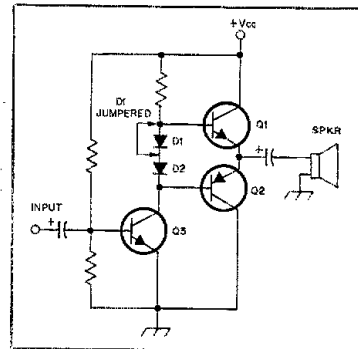

Fig. 4 — Typical circuit of a complementary-symmetry audio channel found in a modern receiver or transceiver (see text).
Fig. 4 — An old piece of coaxial feed line can be tested for losses by establishing a given transmitter output power (A) and maintaining it. Next, as shown at B, the wattmeter and dummy load are moved to the far end of the line to be tested and a second power reading is taken. The loss in decibels is then found from $\text{dB} = 10 \log P_1/P_2$, where P_1 is the highest power observed and P_2 is the lowest reading.
If you are suspicious of your feed line because it has been out of doors for a long time, or if it has been buried in the soil, it would be prudent for you to do a power-loss measurement of the line. This is a simple procedure. The essentials are shown in Fig. 4. The transmitter power is set to a specified amount after we connect a power meter and dummy load to the transmitter output. Next, the suspected coaxial line is attached to the transmitter, while the power meter and dummy load are moved to the far end of the feed line. A second power reading is taken. The loss in decibels is then compared to the loss of a new feed line, at the operating frequency. (See Fig. 1 and calculate the loss per foot.) If it is greater than 10% of the rated value, the feed line should be replaced.
Most of today's rigs have an af-output stage that is similar to the circuit of Fig. 4. D1 and D2 provide a slight forward bias for Q1 and Q2 to reduce crossover distortion. Sometimes a resistor is used in place of D1. All we need to do in order to introduce crossover distortion intentionally is to change the bias on Q1 and Q2 of Fig. 4. The crossover distortion provides the same results as is created by D1 and D2 of Fig. 1, surprisingly. If there are two such diodes in your rig, you may jumper one of them (as in Fig. 4), and that will do the
trick. As an alternative, you may replace the silicon diodes with germanium units, which have roughly half the forward-conduction voltage characteristic of silicon diodes. If a resistor is presently in use at D1 of Fig. 4, you may need to reduce the value of the resistor to approximately half the present value. Do not replace both diodes with resistors, because at least one diode is necessary to ensure thermal stability.
Fig. 4 — High-current PTT demands can be met by using a high-power npn transistor for Q6. A relay can be used, as shown at A, or a current-limiting resistor can be added to allow direct keying, as shown at B. The resistor value will depend on your transmitter.
a direct PTT-line interface or to drive Q5 as a keying transistor for the npn power transistor, Q6. By giving special attention to interfacing problems during the design process, I have provided a circuit that can be adapted to a wide variety of keying requirements. Fig. 3 shows two examples of PTT interfacing using the low-current transistor. If the PTT current requirement is higher than the 2N3904 can handle (200 mA), then Q5 and Q6 can be included to drive a larger relay or key the transmitter directly. The TIP-31 transistor will drive a 12-V PTT line at up to 1 A. Fig. 4 shows the circuit arrangement for two high-current interface configurations. Be sure to use an adequate heat sink with the high-current interface circuit. If the heat sink gets too hot to hold your finger on, increase its size to provide extra cooling.